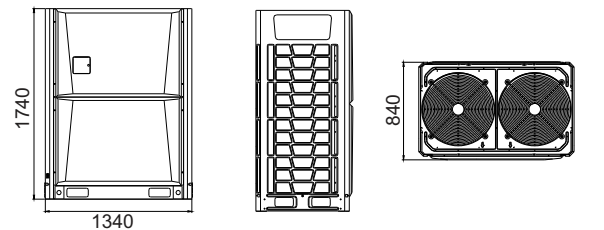

Fig.3.3 Shape3 (18HP~20HP)
1. The master machine shall be installed on a firm cement ground or concrete foundation. The concrete foundation is constructed as per Fig. 3.3, or be constructed with field measuring.